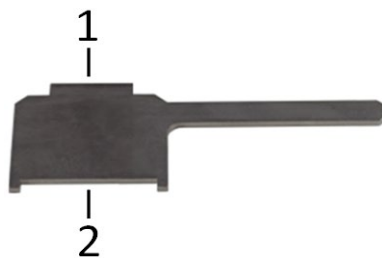

Fig. 5: P-721.xxQ: Flat wrench (included in the scope of delivery of the thread adapter set)
- Key tool supplied (see Fig. 5, p. 17)